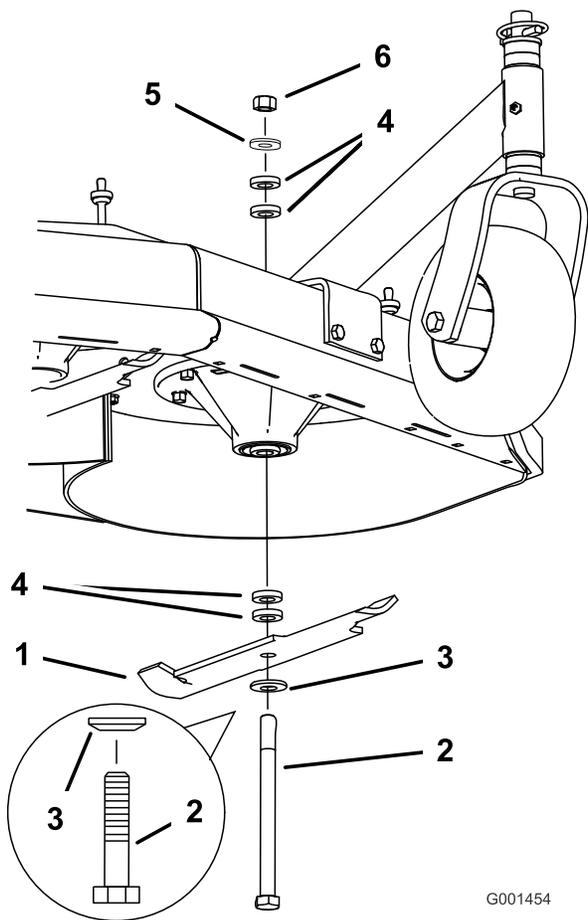

Figure 57
2. Remove the nut, blade bolt, curved washer, blade, spacers, and thin washer from the spindle (Figure 57).
1. Install the curved washer and then the blade onto the bolt. Select the proper number of spacer(s) for the height of cut, and slide the bolt into the spindle (Figure 57).